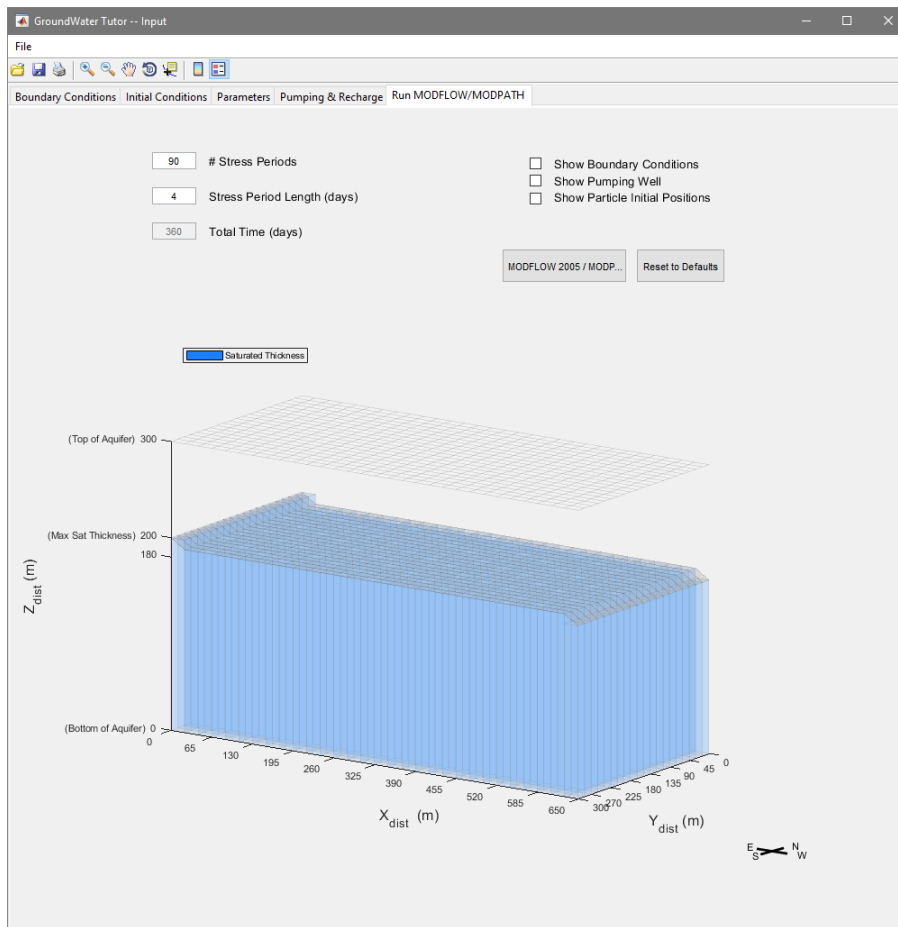

Figure 6. Run MODFLOW/MODPATH tab from the GroundWaterTutor Input Window.
- **Run MODFLOW/MODPATH** – See **Figure 6**. Once all input values have been assigned, navigate to this tab and press the *Modflow2005/Modpath7* button to run the model(s) and display the results. Basic elements of time discretization, like stress-period length and the number of equal-length stress periods can also be modified. Choosing an appropriate temporal discretization scheme requires balancing the need for temporal resolution against the increased model execution times that come with fine temporal resolutions. The initial location of tracer particles (which cannot be modified), the model boundary conditions, and the location of the pumping well can be viewed using the checkboxes on the right side of this tab.